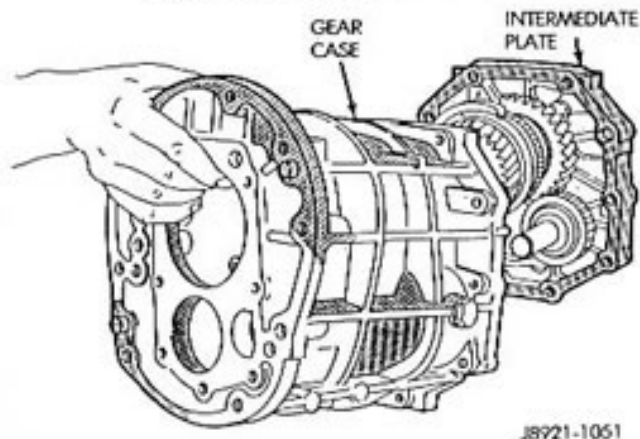

Fig. 21 Gear Case Removal
(6) Remove the gear case from the geartrain and intermediate plate (Fig. 21).